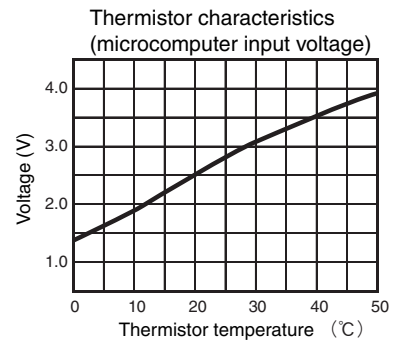
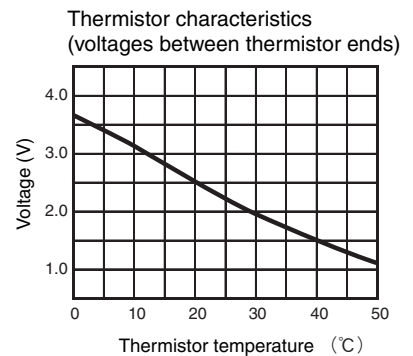

Fig. 5-2
Fig. 5-3
- The relationship between the thermistor temperature and circuit voltage is roughly as shown in Fig. 5-2. If it is easier to take actual measurements between the terminals of CN4, use the chart in Fig. 5-3 "Voltages between thermistor ends."